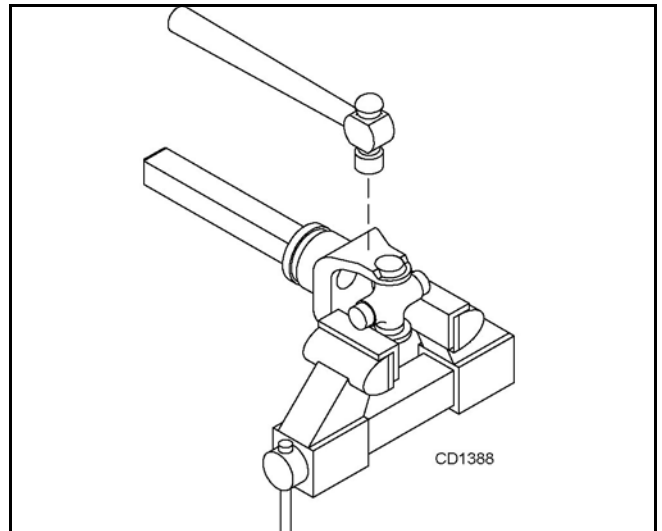

Figure 30. Remove Cups
4. Place universal cross in vise as shown in Figure 30 and tap on yoke to remove cup. Repeat Step 3 for final removal. Drive remaining cup out with a drift and hammer.